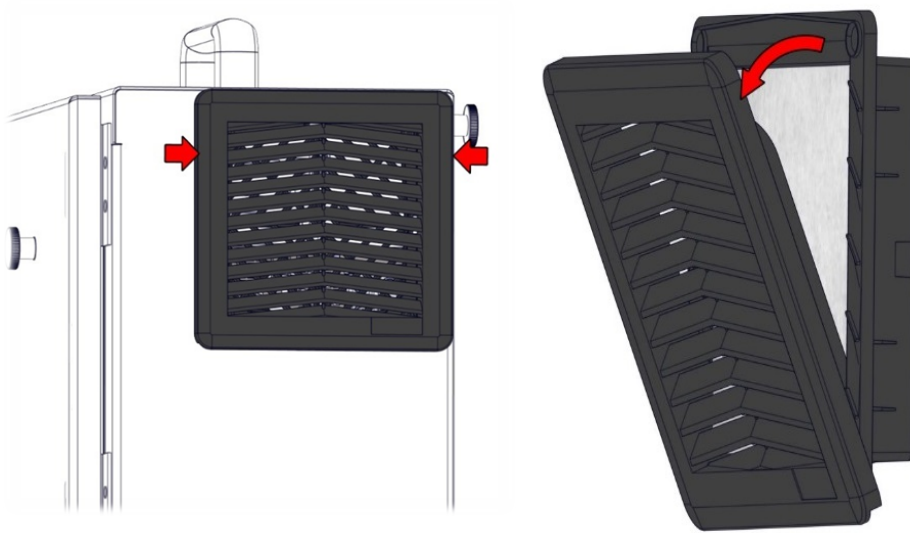

Figure 3.7. Vymeňte filtre radiacej skrinky.
1. Gently remove the outer plastic frame by pulling where the red arrows are, as shown in the images below in figure 3.7. Rám sa nakláňa smerom von.